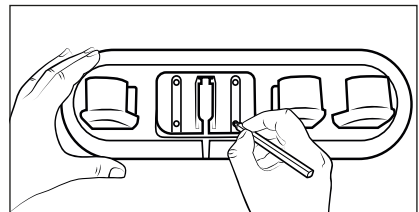

Fig. 5
- 3) Use the accessories holder **16** to mark the four drill holes on the wall (see Fig. 5).